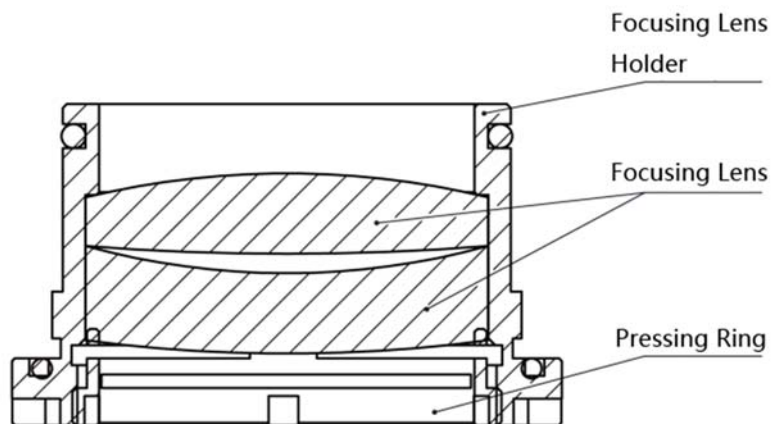

Figure 5.9 - Schematic diagram of focusing lens installation
- Carefully place the focusing lens and the pressing ring back into the lens holder (see figure 5.9), and tighten the pressing ring properly;